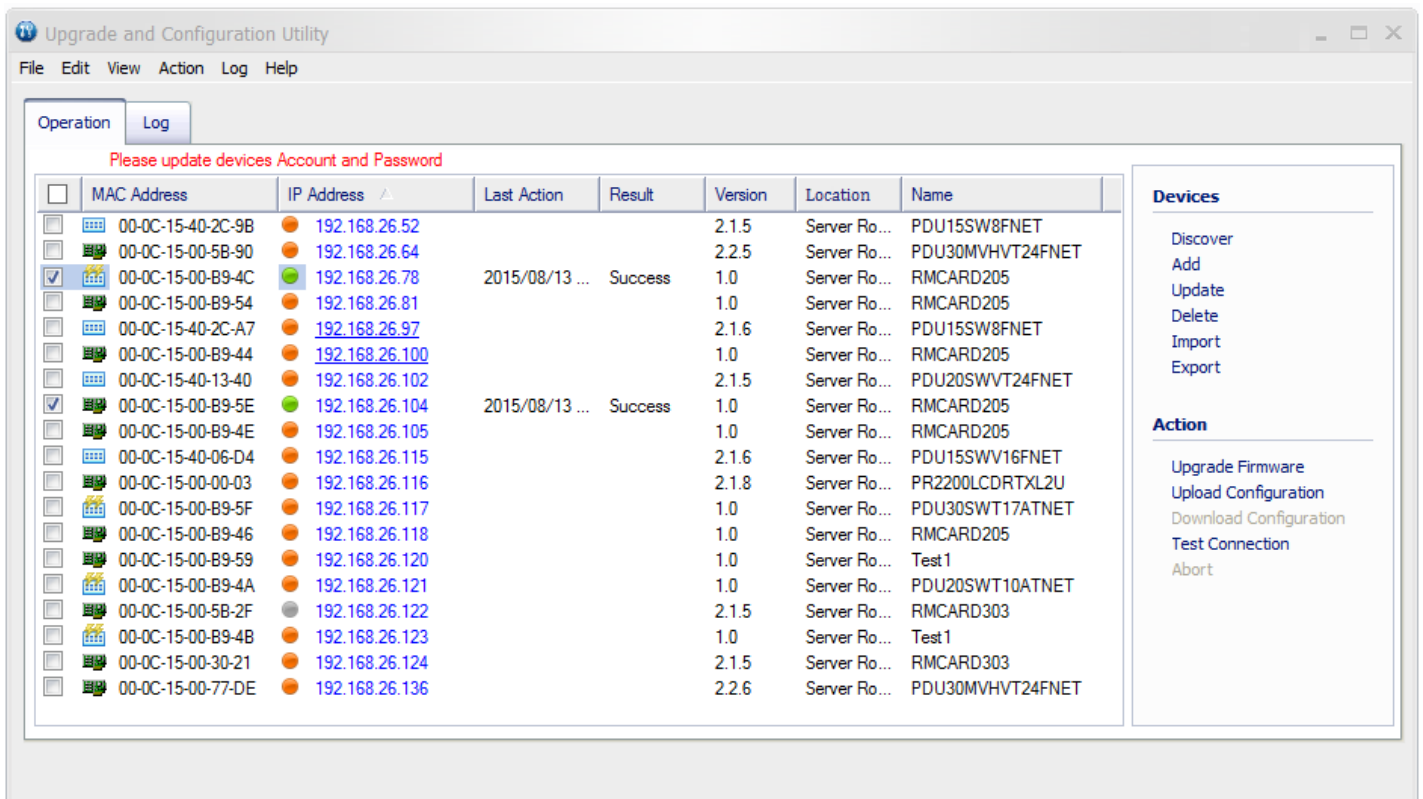

Figure 8. Firmware upgrade successfully in the main window.
7. If the firmware upgrade is implemented, you will see the Result in the main dialog, as shown in Figure 8.